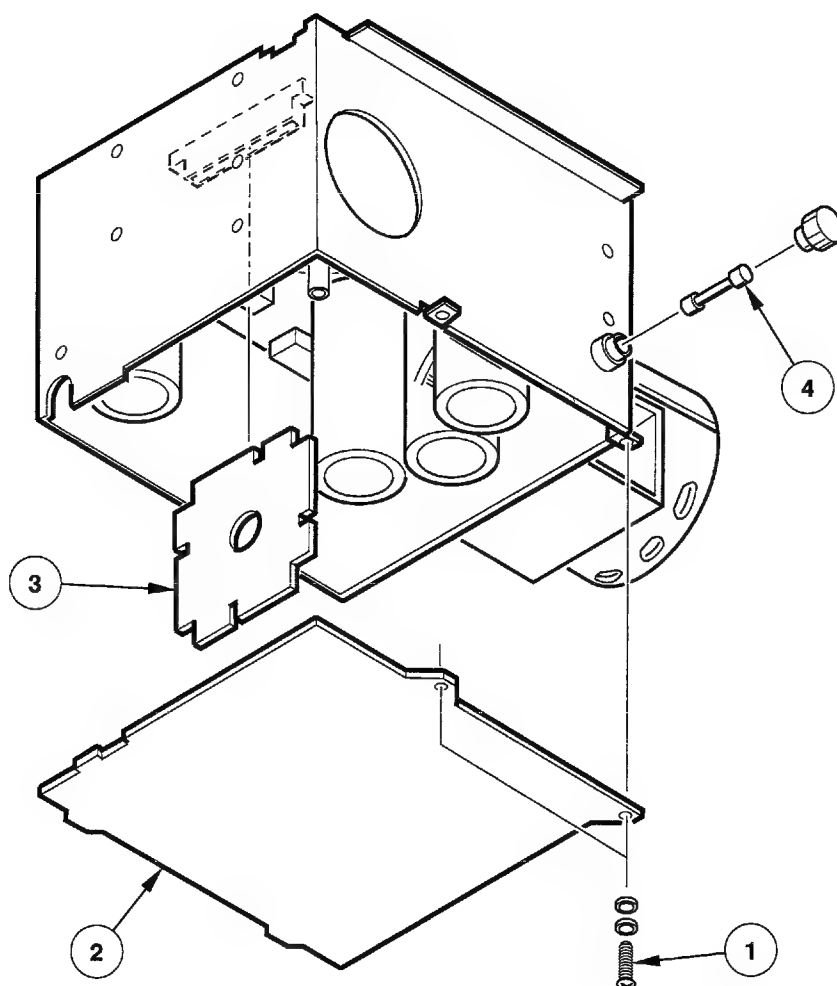

Figure 2-4. Location of Voltage-Select Circuit Board and Fuse
3. Remove the two screws (1) that secure the power supply cover (2) to the power supply housing and remove the power supply cover. See Figure 2-4.